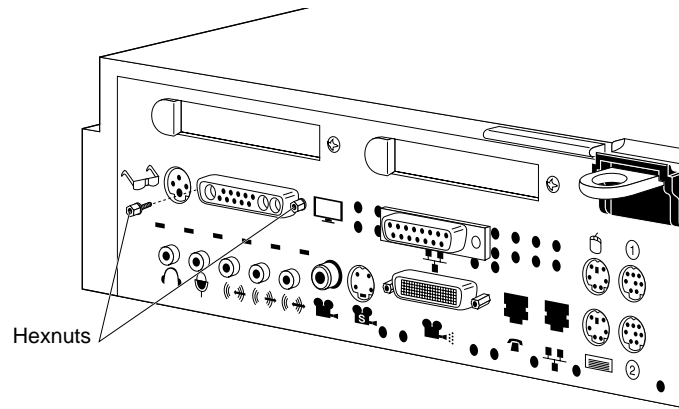

Figure 8-8 Removing the Screws From the Graphics Board's I/O Connector
7. Use the end of the tool that has an icon (provided with the replacement graphics board) to unscrew the two hexnuts on either side of the graphics board's I/O connector on the rear of the workstation, as shown in Figure 8-8.